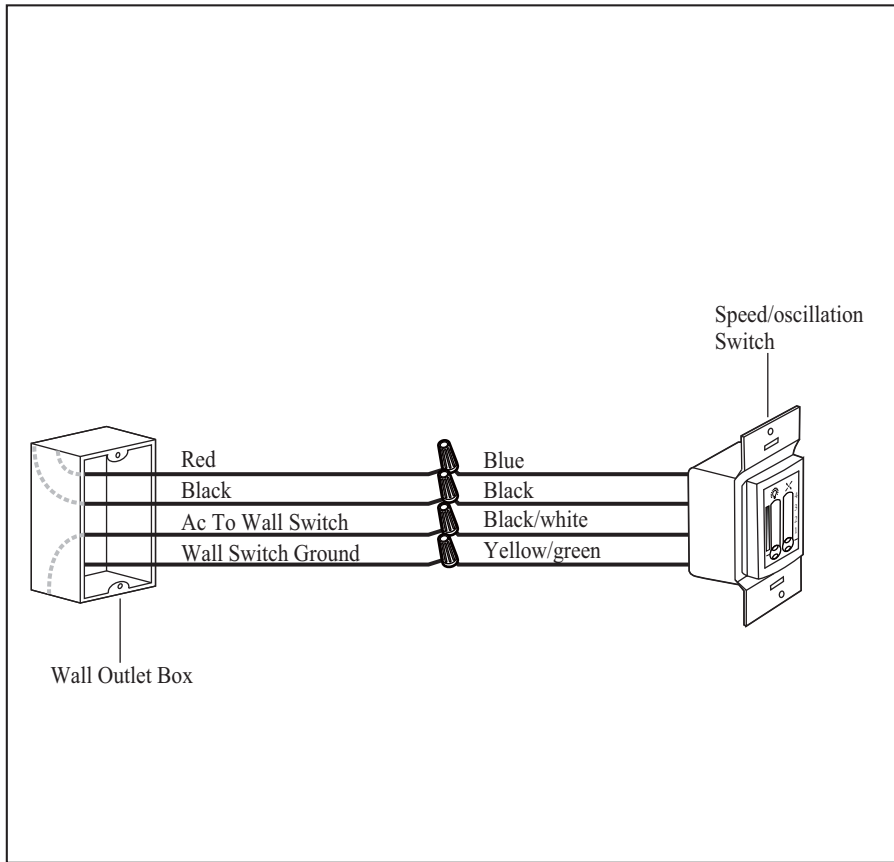

Figure 12
- a. Speed/oscillation control wire connection (see figure 12)